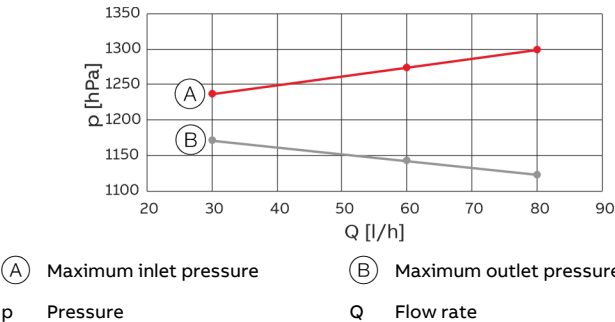

Figure 1: Max. pressure hPa abs. for internal pressure 1200 hPa abs.
- Maintaining the pressure limits for the sample gas inlet and -outlet in accordance with **Figure 1**.